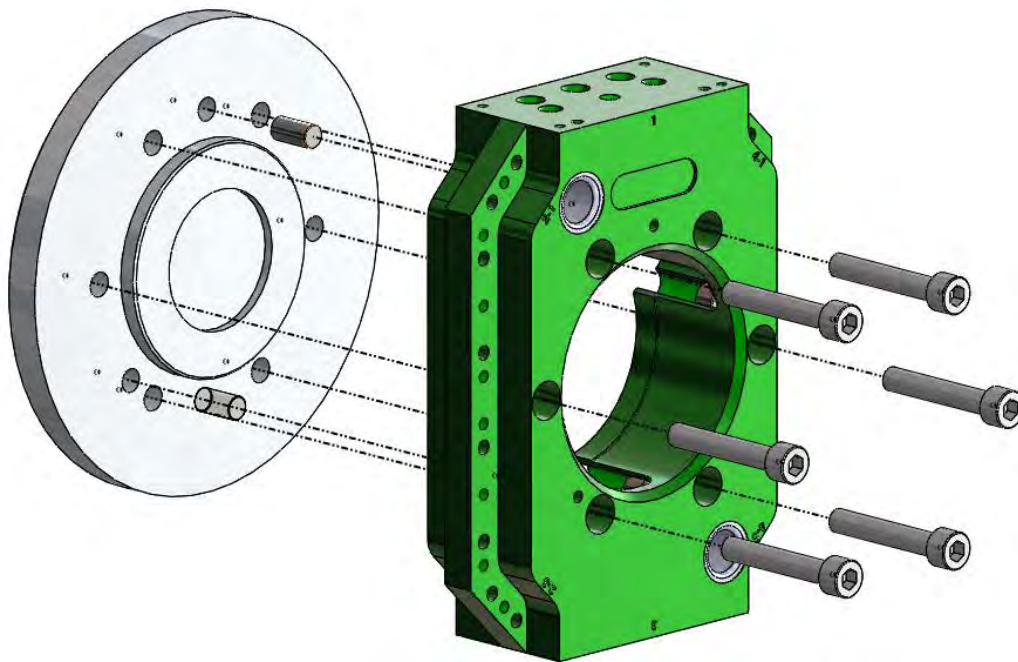

Figure 5.2-2. E125 Tool Adaptor Installation (Bolt Top Down)
1. Locate the Tool Adaptor to the tool plate utilizing either the locating hub and one (1) M10 locating dowel, or two (2) M10 locating dowels (Figure 5.2-2).